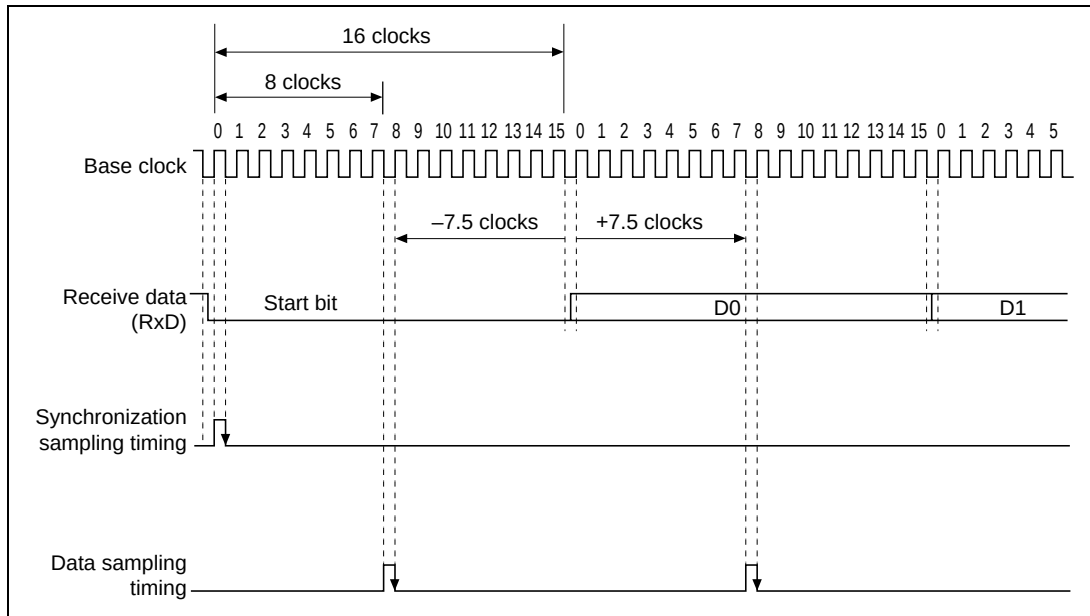

**Figure 15.24 Receive Data Sampling Timing in Asynchronous Mode**
**Receive Data Sampling Timing and Receive Margin in Asynchronous Mode:** The SCI operates on a base clock with a frequency of 16 times the bit rate. In reception, the SCI synchronizes internally with the fall of the start bit, which it samples on the base clock. Receive data is latched at the rising edge of the eighth base clock pulse. The timing is shown in figure 15.24.